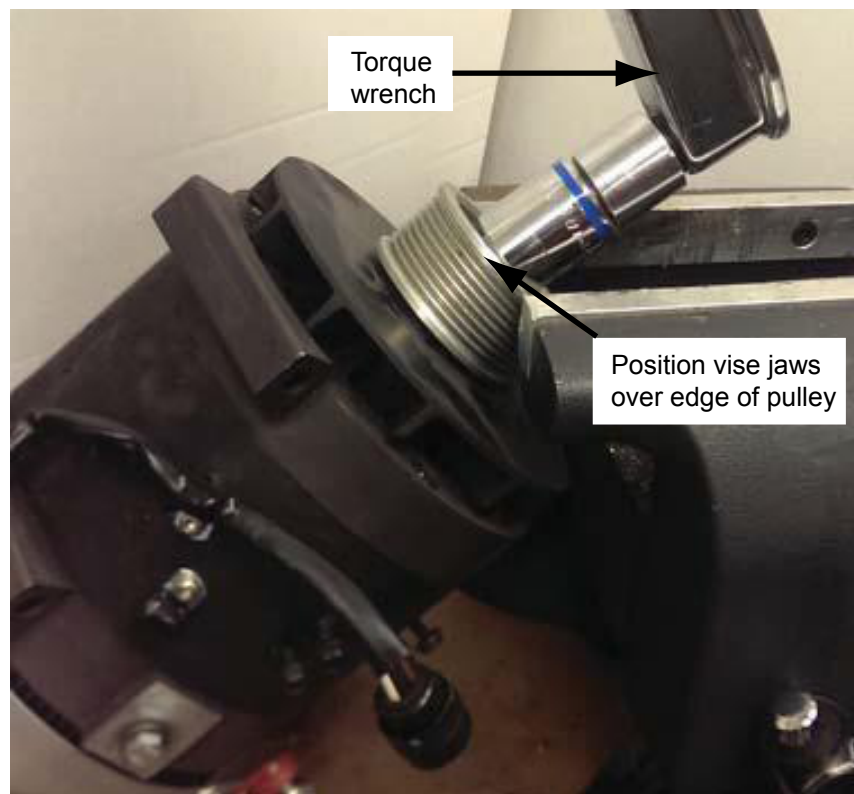

Figure 10
1. Set alternator on bench and place pulley in vise. Make sure vise jaws only grip front edge of pulley. See Figure 10.